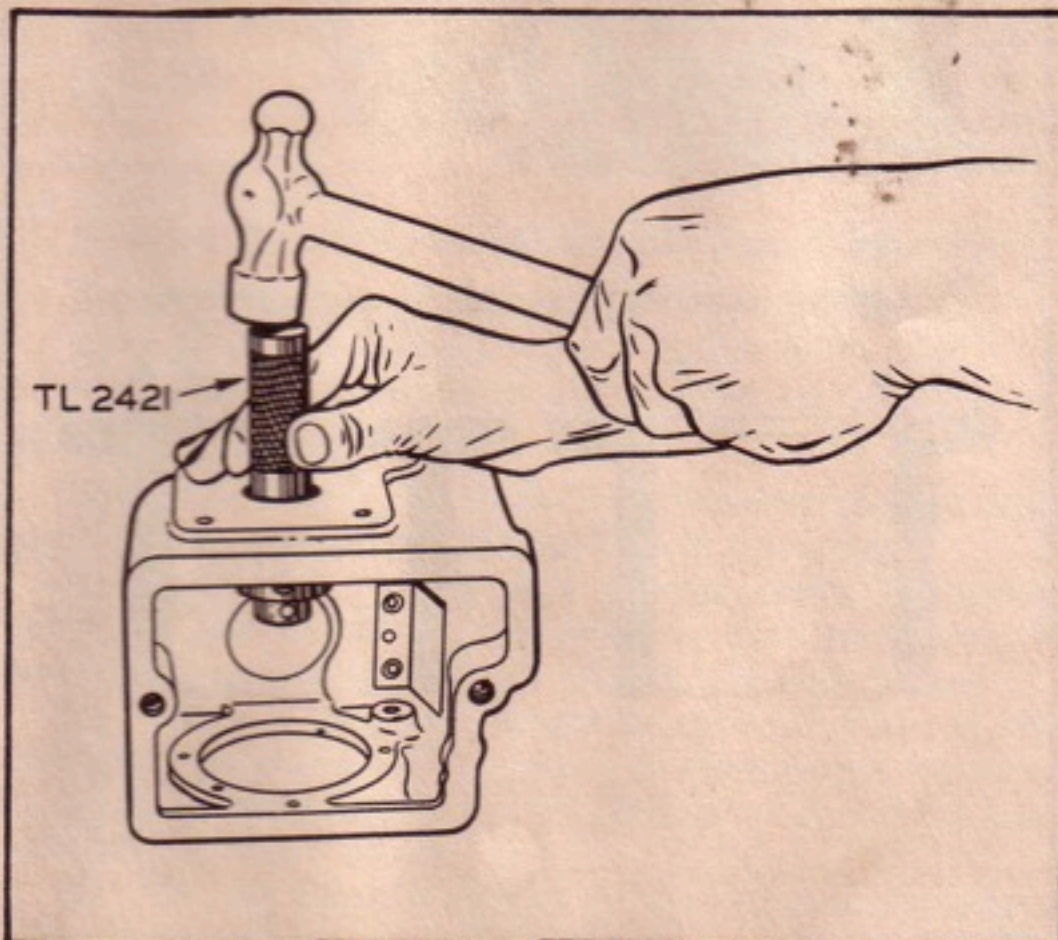

Figure C-12. Driving Crankshaft Bearing Out of Cylinder Block
b. Drive the old bearings out of the cylinder block, using the main bearing driver, Part No. TL2421. (See figure C-12.)
Make certain that the oil holes in the bearings are in alignment with the openings in the bearing plate and those in the cylinder block in order to provide proper oil circulation to the bearings. Figures C-12 and C-13 show the approximate location of these holes.